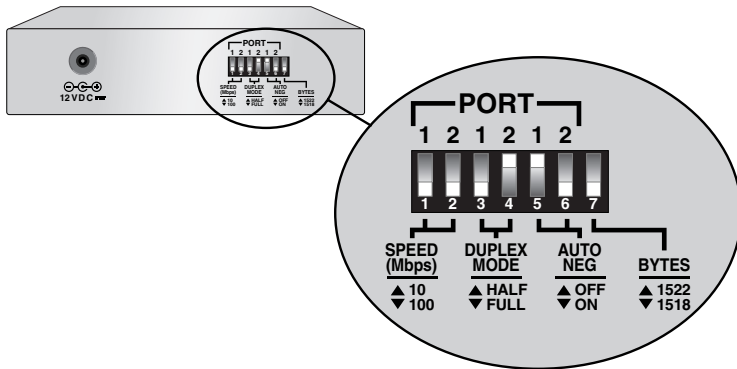
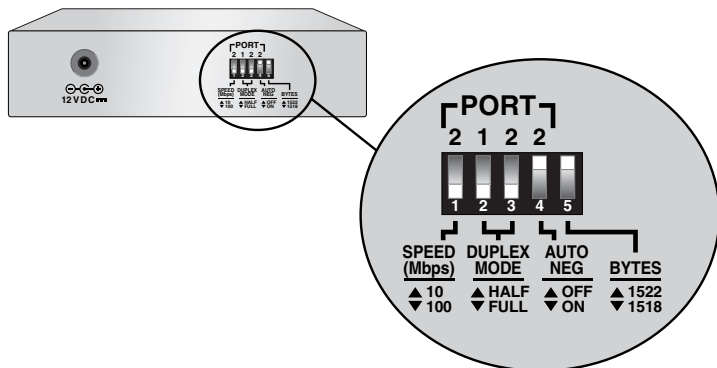

Figure 11 AT-FS203 DIP Switches
Figure 12 AT-FS201SC and AT-FS202ST DIP Switches
3. Configure the DIP switches on the rear panel of the unit. Refer to Figure 11 and Figure 12 for the location of the switches and Table 6 and Table 7 for the possible settings.